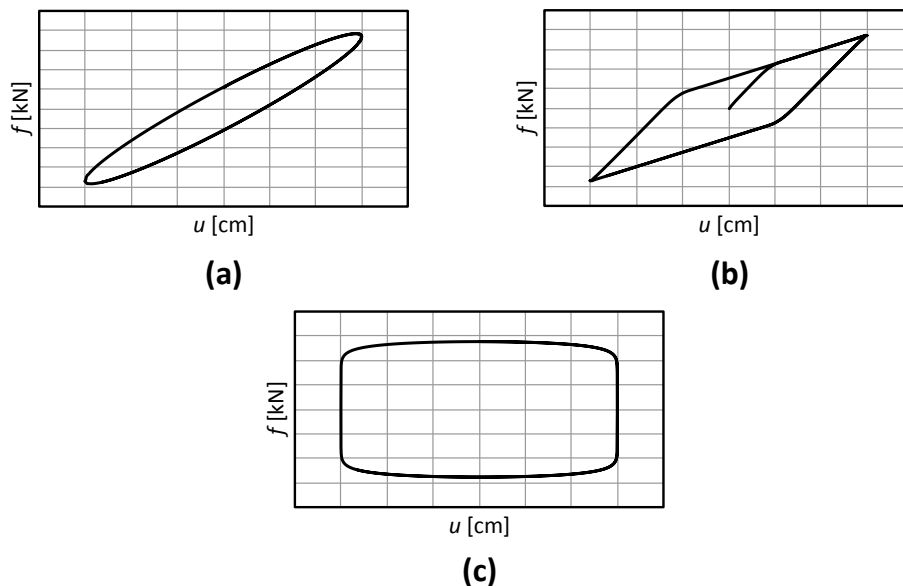

Figure Q3 – Force-displacement hysteretic loops recorded for different types of energy dissipation devices
3. (a) Figures Q3(a), (b) and (c) show the force-displacement hysteretic loops for three different types of energy dissipation devices, namely viscoelastic, elasto-plastic and nonlinear viscous dampers. **Associate** the correct mechanism of energy dissipation to each of the three plots, and briefly **describe** how the different devices work. [Note: The answer to this question is not expected to exceed 250 words in total. A set of figures can be used to support your descriptions of the different devices.] [9 marks]